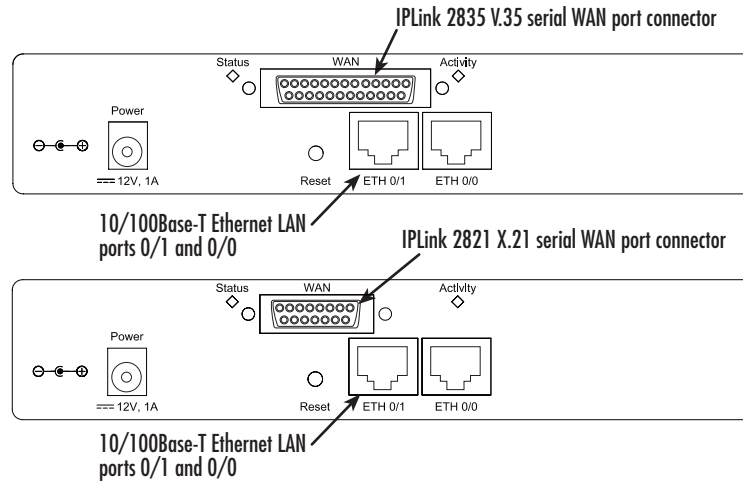

Figure 2. IPLink 2800 Series X.21, and V.35 connectors
The IPLink 2800 Series Managed VPN Router provides secure managed VPN routed networking with 2-port Ethernet LAN connectivity and serial WAN access via a built-in V.35 or X.21 serial WAN interface (see figure 2).
**Serial WAN models.** The following models come equipped with an integrated V.35 or X.21 serial WAN port and two 10/100Base-T Ethernet ports (see figure 2):